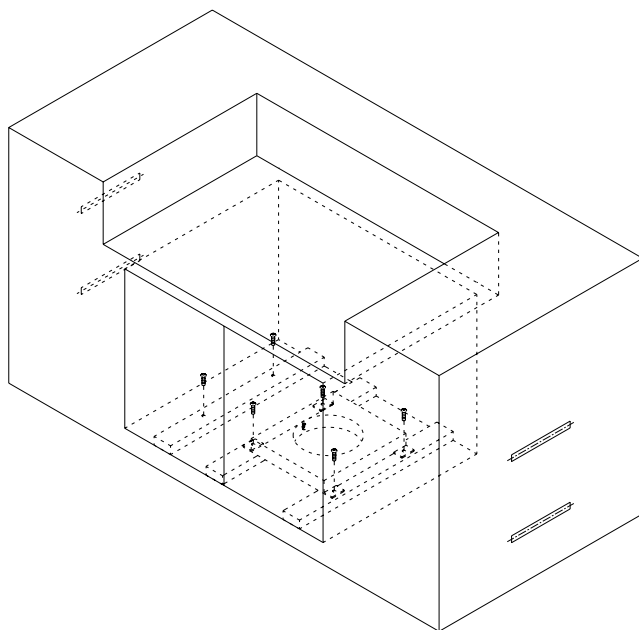

Figure 1.
1. To install the battery, remove the ignition button housing. Insert the battery into the housing with the positive pole facing out. Replace the ignition button housing after battery is installed (FIGURE 1).